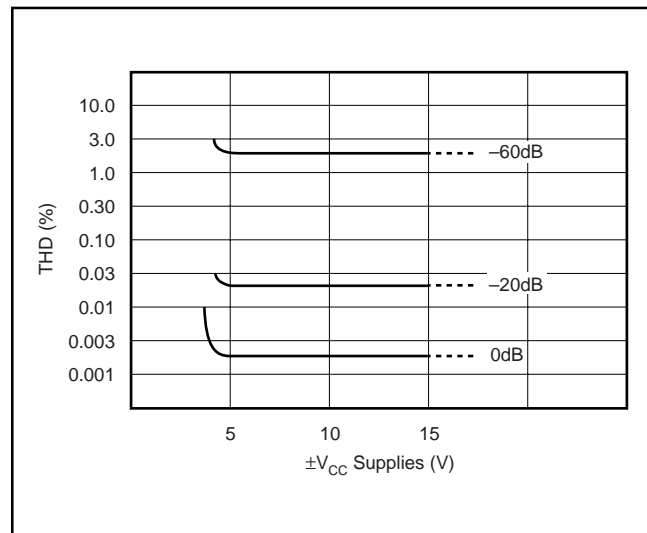

FIGURE 2. Effects of $\pm V_{CC}$ on Total Harmonic Distortion (PCM54JP; V_{CC} s with approximately 2% ripple).
NOTES: (1) Externally adjustable. If external adjustment is not used, connect a 0.01 μF capacitor to Common to reduce noise pickup. (2) FSR means Full-Scale Range and is 6V for $\pm 3V$ output. (3) The measurement of total harmonic distortion is highly dependent on the characteristics of the measurement circuit. Burr-Brown may calculate THD from the measured linearity errors using Equation 2 in the section on "Total Harmonic Distortion," but specifies that the maximum THD measured with the circuit shown in Figure 2 will be less than the limits indicated. (4) Measured with an active clamp to provide a low impedance for approximately 200ns. (5) Deglitcher or sample/hold delay used in THD measurement test circuit. See Figures 2 and 3. (6) Output amplifier disconnected.
The PCM54 and PCM55 power supply sensitivity is shown by Figure 2. Normally, regulated power supplies with 1% or less ripple are recommended for use with the DAC. See also Power Supply Connections paragraph in the Installation and Operating Instructions section.